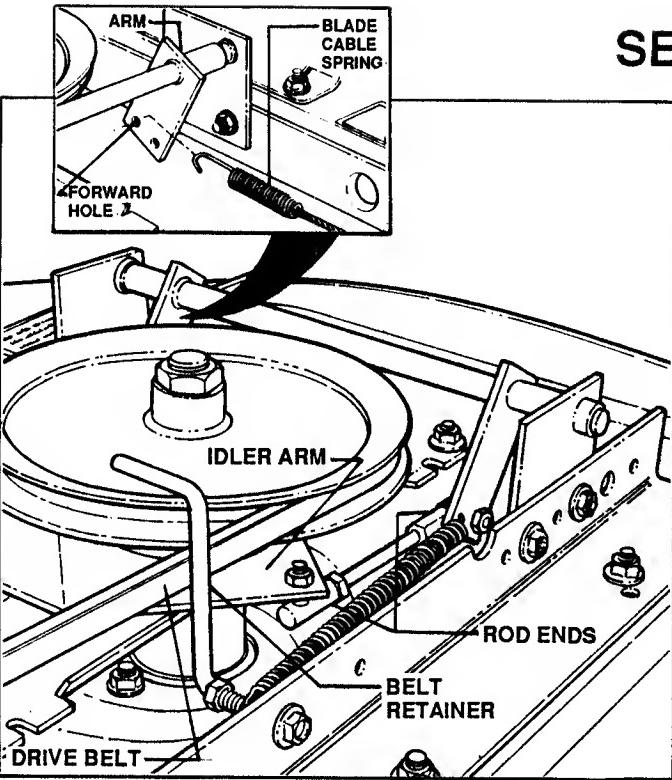

FIGURE 20
3. Remove BLADE CABLE spring from hole in CROSS SHAFT. See Figure 20.
MAKE SURE SPRING IS ATTACHED IN FORWARD HOLE OF ARM (REFER TO FIGURE 20).